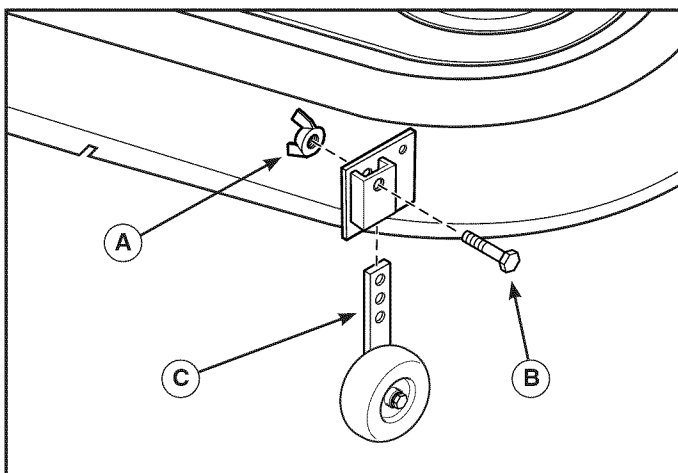

Figure 16
4. Remove wing nut (A, Figure 16) and screw (B).
5. Adjust gauge wheel (C) as needed.